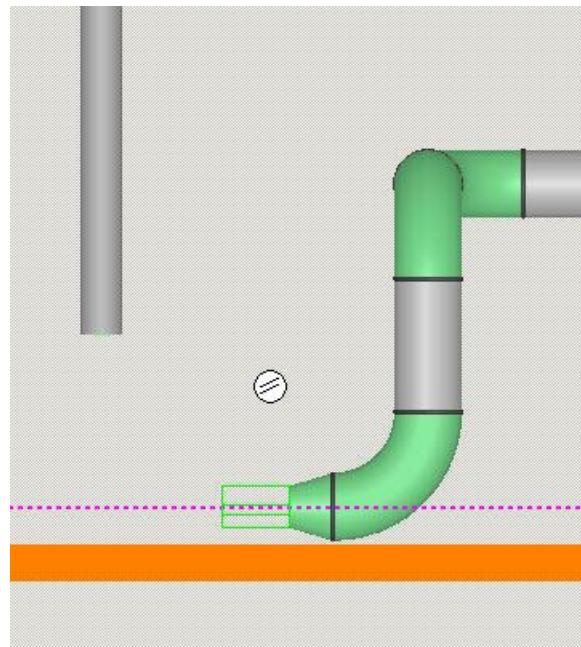

Figure 19.9: Concentric Reducer Insertion
- 17) Choose <New Pipe Run> and change the **Nominal Diameter** to 6 in. Click **OK**. The graphic display should be similar to Figure 19.9.